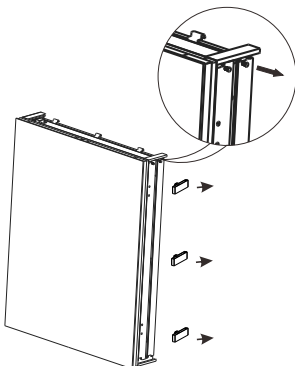

Fig.11
- 1.4 Remove the screw by 3mm, then take out the fixing block and screw it back to secure the cabinet (Fig.11).